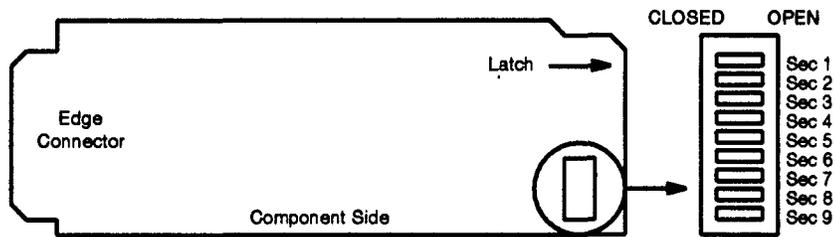

Figure 1. AEK36 DS1 INTFC1 Option Settings
4. Refer to **Figure 1** and set the option switches according to **Tables A and B**.